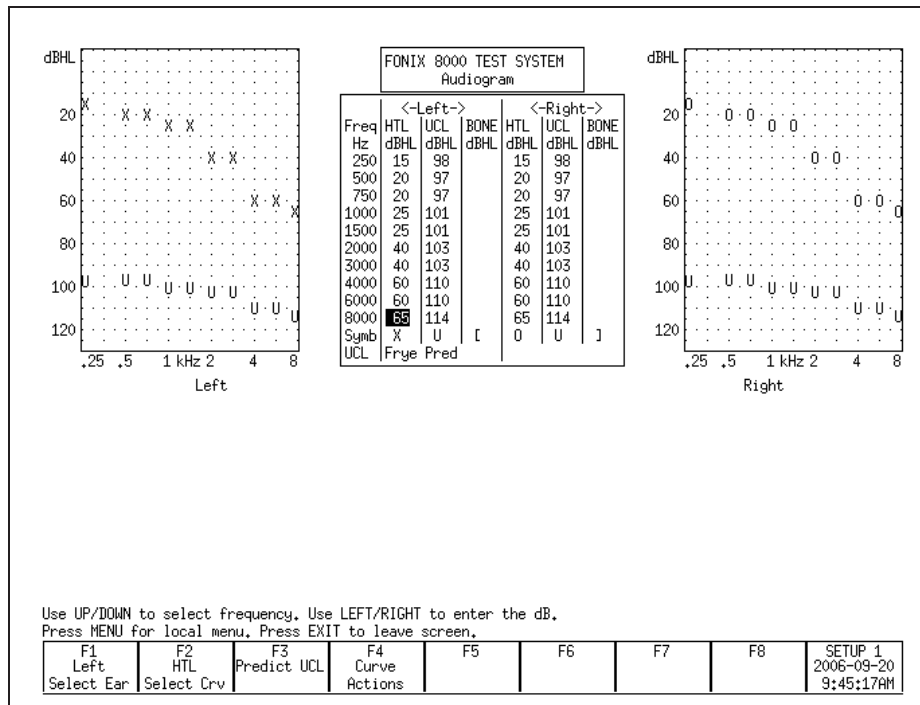

Figure 8.3.1—Audiogram Entry screen
2. Press [F1] to enter the Audiogram Entry screen. See Figure 8.3.1.